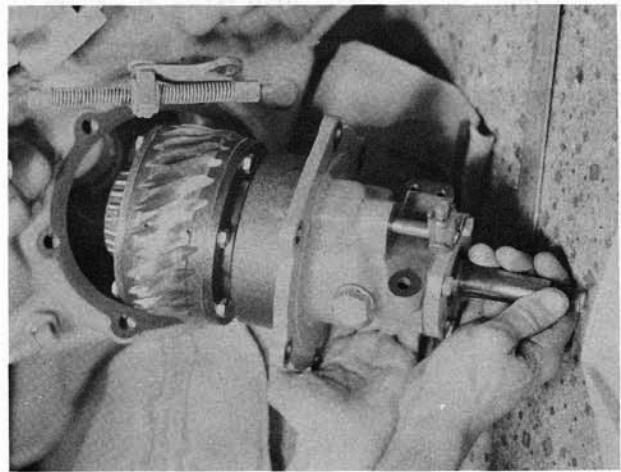

Figure 41
18. Put Differential on axle shaft that is already assembled in Axle Housing (6728). Make sure that the Shifting Clutch is engaged with the Stationary Clutch and slip the Differential and Axle Housing into position by getting the splined gear hub in the splined hole of the Shifting Clutch. . . see Figure 41.
19. Slip the complete unit into the chassis and guide the axle in the Axle Housing (L-203-E) into the center of the Differential, as in Figure 41.